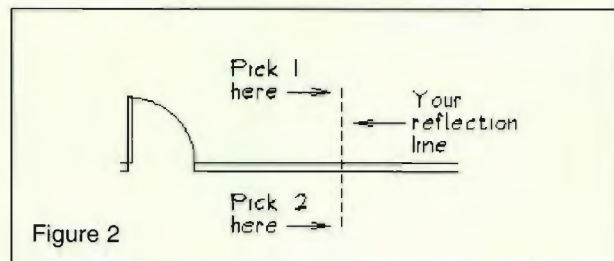

Figure 2
2. Pick two points to define a reflection line, as shown in Figure 2.